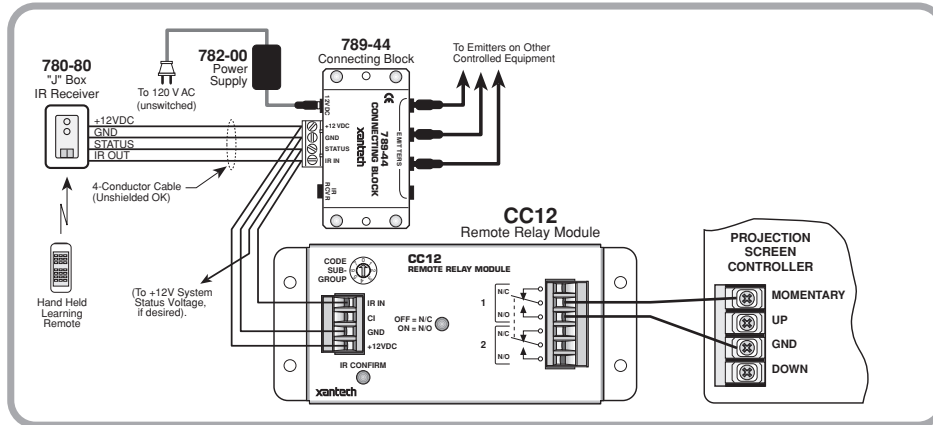

Fig. 3 Using a CC12 to Activate a Projector Screen Drop
The CC12 can be used in any application that requires dry switch closures activated by IR commands or by a DC control voltage; up to the capacity of the DPDT 5A/30V DC relay. Some of the more likely applications would be to activate video projector lifts, screen drops, drape pulls, etc., in home automation systems. **Fig. 3** is a simple example of a screen drop application.
- **Fig. 3** assumes that the projector screen controller can be configured to operate with a momentary switch closure action. That is, a momentary closure and release at its control terminals will cause the screen to drop to its fully extended position. A second momentary closure will cause it to retract to its fully withdrawn position.
- Note that, as in **Fig. 3**, the N/O (normally open) contacts are connected to the screen and projector lift's **MOMENTARY** terminals. This allows the momentary action to occur.